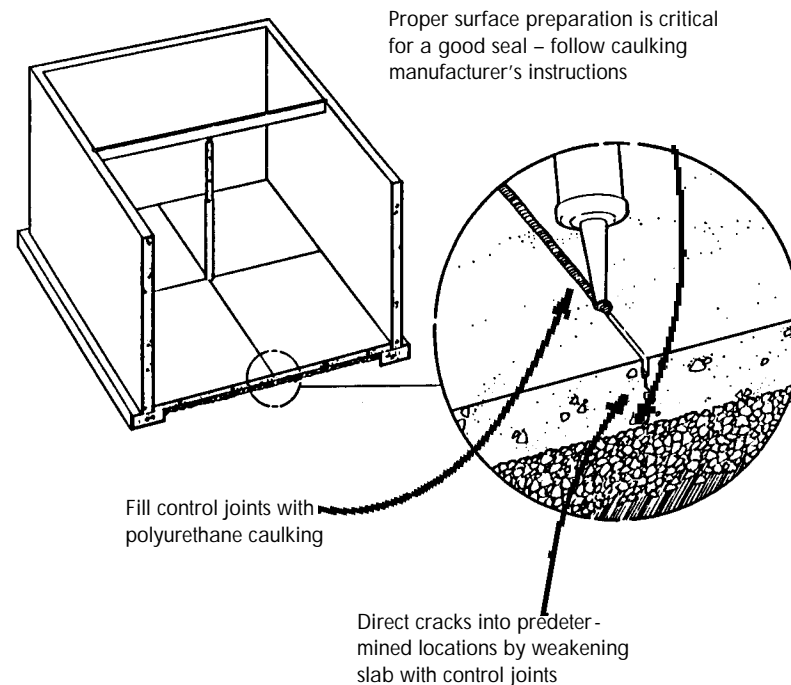

Figure 15: Control joints for new concrete floor slabs
- Use control joints in the concrete floor slab. Since some cracks in the basement slab may be unavoidable, your contractor can direct cracks into controlled locations where they can be sealed with polyurethane caulking (see **figure 15**). Control joints can be created by: